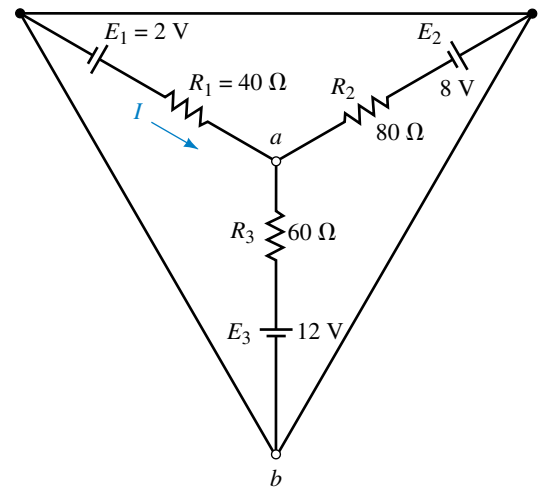

FIGURE 8-84
- 29. Use mesh analysis to solve for the loop currents in the circuit of Figure 8-84. Use your results to determine I and V_{ab} .